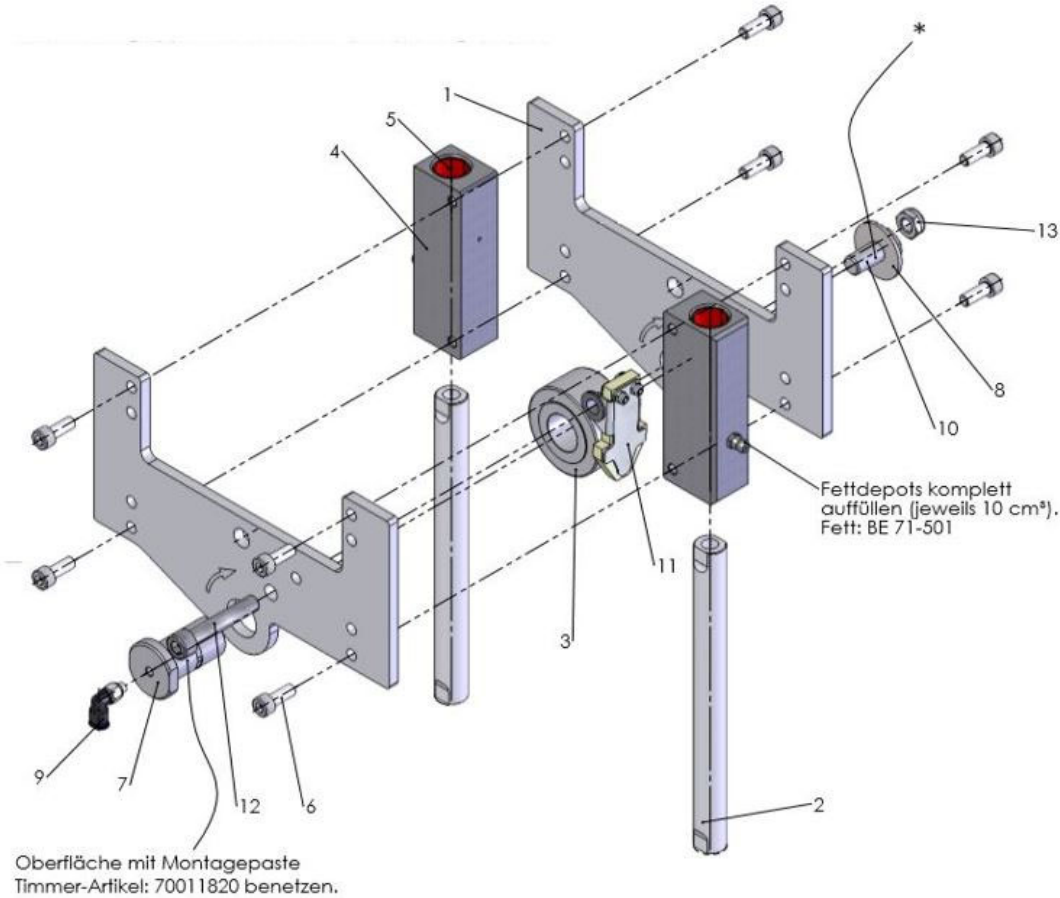

Fig. 7-5: Exploded-view drawing – guide unit
2. The surface of the axle (7) in Fig. 7-5: Exploded-view drawing – guide unit must be wetted with assembly paste (item no.: 70011820)
5. Hexagon socket screw M10x20 (10) must be cleaned with spray cleaner S (item no.: 15073306) and then with Weicon AN 302-43 and bolted to the pump unit and the axle with a tightening torque of 32 Nm.